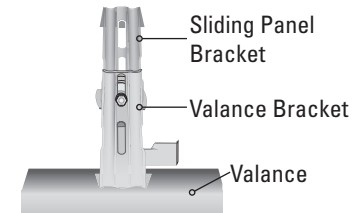

Figure 8: Box Valance Installed (face mount)
2. Using the nut and bolt provided, attach the Box Valance to the sliding panel bracket [Figure 8].